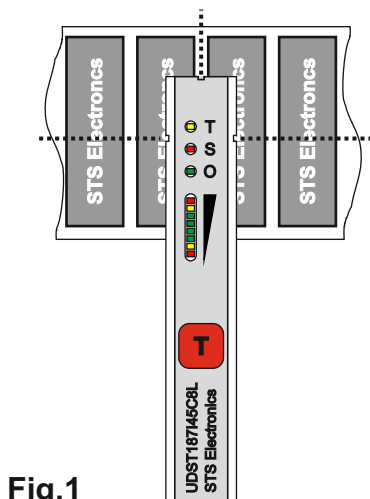

Fig.1
1. The tape label is positioned in gap between labels (figure 1), in line with the markers on the front panel.